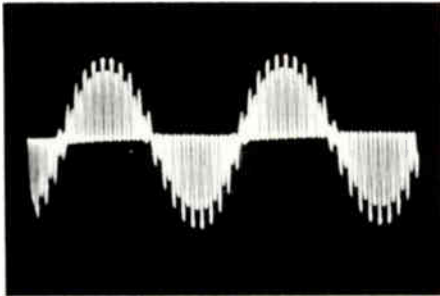
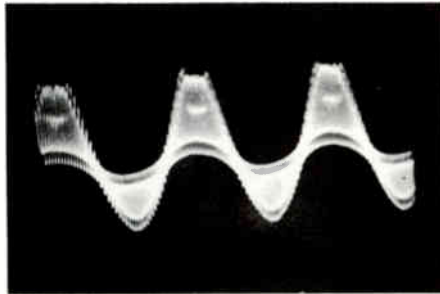

Figure 6. Demodulated Stereo Output from Properly Aligned Tuner
Figure 7. Demodulated Stereo Output from Poorly Aligned Tuner
7. Adjust the oscilloscope controls to obtain a trace similar to that shown in Figure 6. Rotate the RF DEVIATION control throughout its range, noting the waveform on the oscilloscope. The 1000 cps signal will vary in amplitude, but should retain its waveform regardless of the setting of the control. Flattening of the sine-wave peaks, or "break-up", is an indication of probable poor alignment or insufficient bandwidth in the tuner. (Figure 7 shows an example of the waveform obtained from a poorly aligned tuner.) Note the peak-to-peak signal amplitude of the oscilloscope trace. This